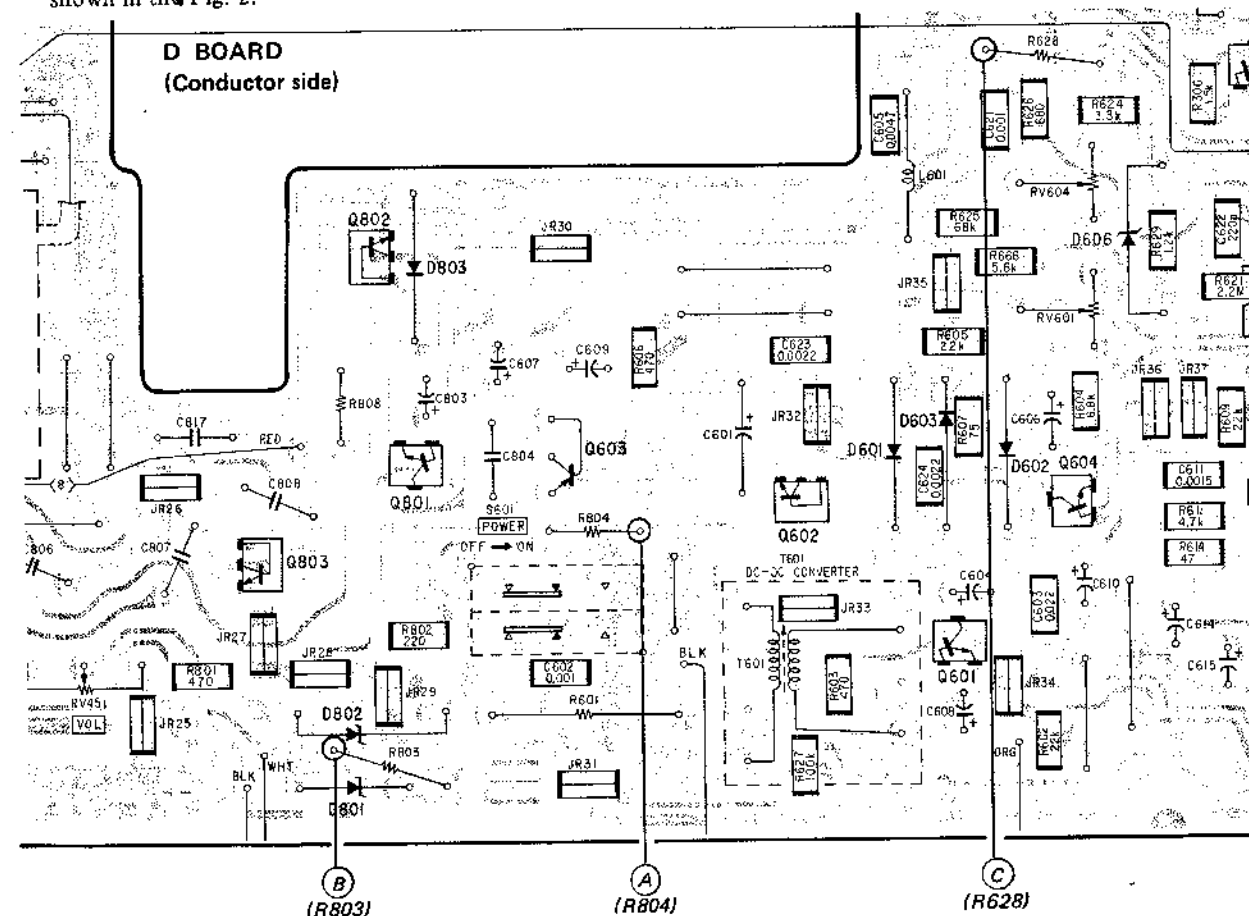

Fig. 1 Unsoldering Location
1. Unsolder (A), (B) and (C) in the Fig. 1, and remove the one leads (power source side) of R804, R803 and R628.